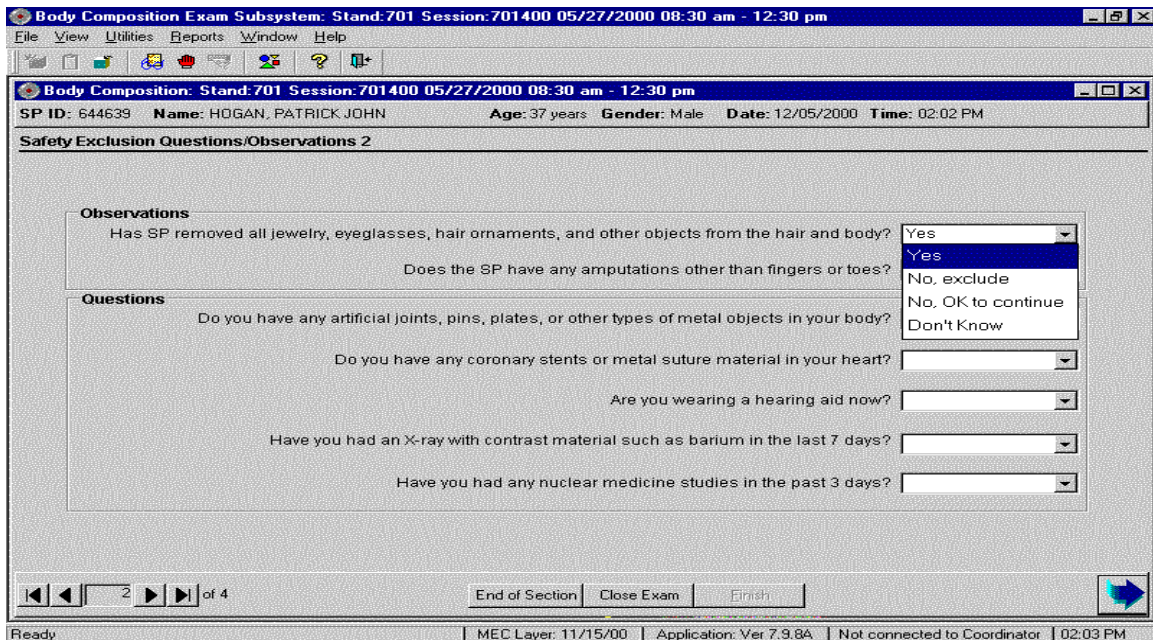

Figure 4-14. Safety/exclusion questions (2)
- See Figure 4-14 for responses to the question ‘Has SP removed all jewelry, eyeglasses, hair ornaments, and other objects from the hair and body?’ Interpret the responses as follows: